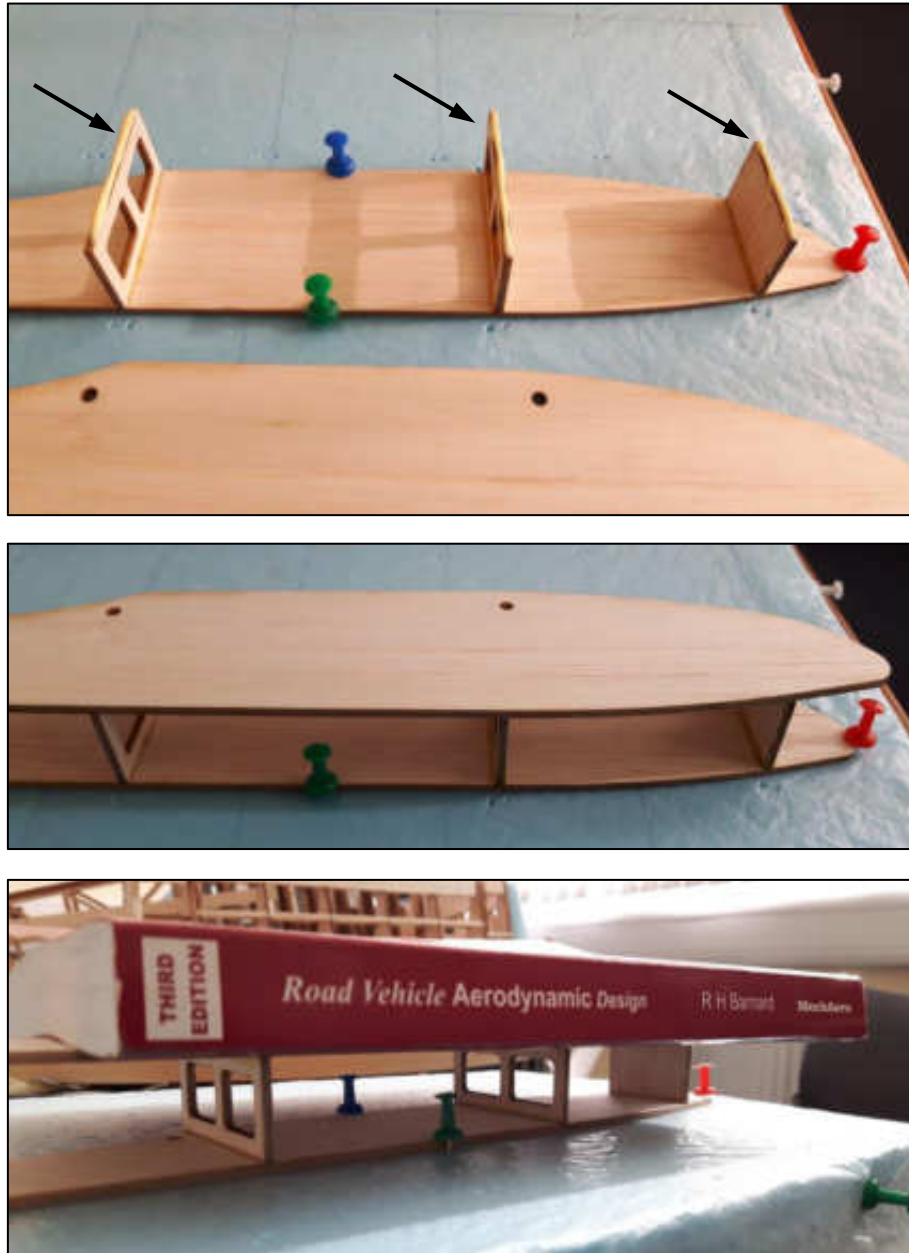

Figure 16: Glue the other fuselage side panel to the bulkheads.
16. Apply glue to the tops of the three bulkheads and position the other side of the fuselage on top. Use a book or another object to apply pressure until the glue dries, Figure 16.